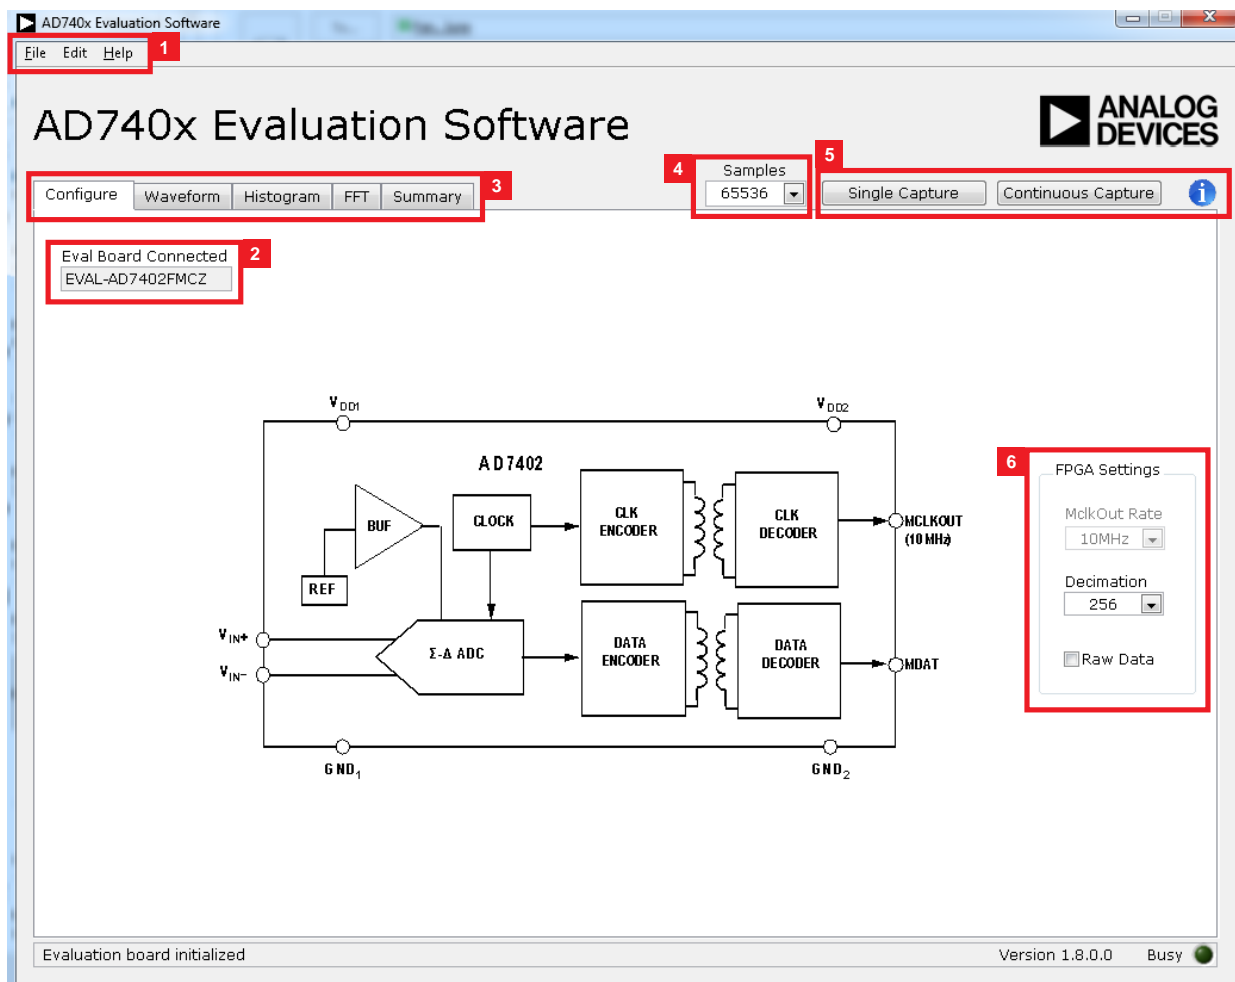

Figure 14. Evaluation Software Main Window
1. From the **Start** menu, click **Programs > Analog Devices > AD7402-8**. The main window of the software opens (see Figure 14).
The main window of the software is shown in Figure 14 and has the features described in this section. These features include the following:
The menu bar (labeled 1 in Figure 14) consists of the **File**, **Edit**, and **Help** menus.
- The **Eval Board Connected** box (labeled 2 in Figure 14) indicates whether the **EVAL-AD7402-8FMCZ** board has been detected.
- The **FPGA Settings** section (labeled 6 in Figure 14) specifies the **MCLKOUT** frequency used for the serial interface and the decimation ratio used by the FPGA to filter the data.
- The **Samples** drop-down box (labeled 4 in Figure 14) allows selecting the number of samples to be captured in a single acquisition.
- Clicking **Single Capture** (see label 5 in Figure 14) initiates the sampling and readback of the number of measurements defined in the **Samples** box.
- Clicking **Continuous Capture** (see label 5 in Figure 14) performs a continuous capture from the ADC. Clicking **Continuous Capture** a second time stops sampling.
There are five tabs available in the tabs area (labeled 3 in Figure 14) of the main window: **Configure**, **Waveform**, **Histogram**, **FFT**, and **Summary**. These tabs are used to switch among device configuration, waveform analysis, histogram analysis, FFT analysis, and a summary of the last capture.